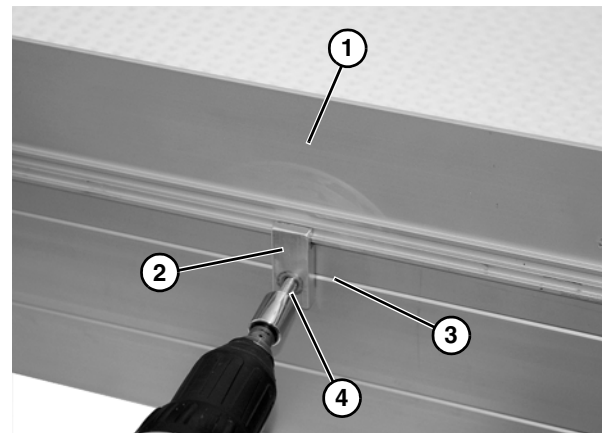

Figure 18
1. Locate guide (**Figure 18, item 1**) and retaining clip (**Figure 18, item 2**) and hold to side rail. Hole should line up with notch (**Figure 18, item 3**) in side rail.
2. With a cordless drill or equivalent install self-drilling screw (**Figure 18, item 4**). Use high speed setting to drill through side wall. Once the tap portion is started switch drill power to a lower speed. Do not fully tighten with drill.